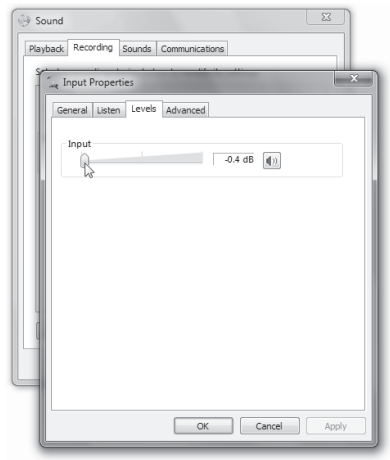

Figure 3
6. To set the gain (volume) settings. Select the "Properties" button, then select the "Levels" tab. The "Input" volume control should be set as close as possible to 0 dB to get the best dynamic range (Figure 3). If the level is set higher than this, the noise will be unnecessarily high. The "Input" volume